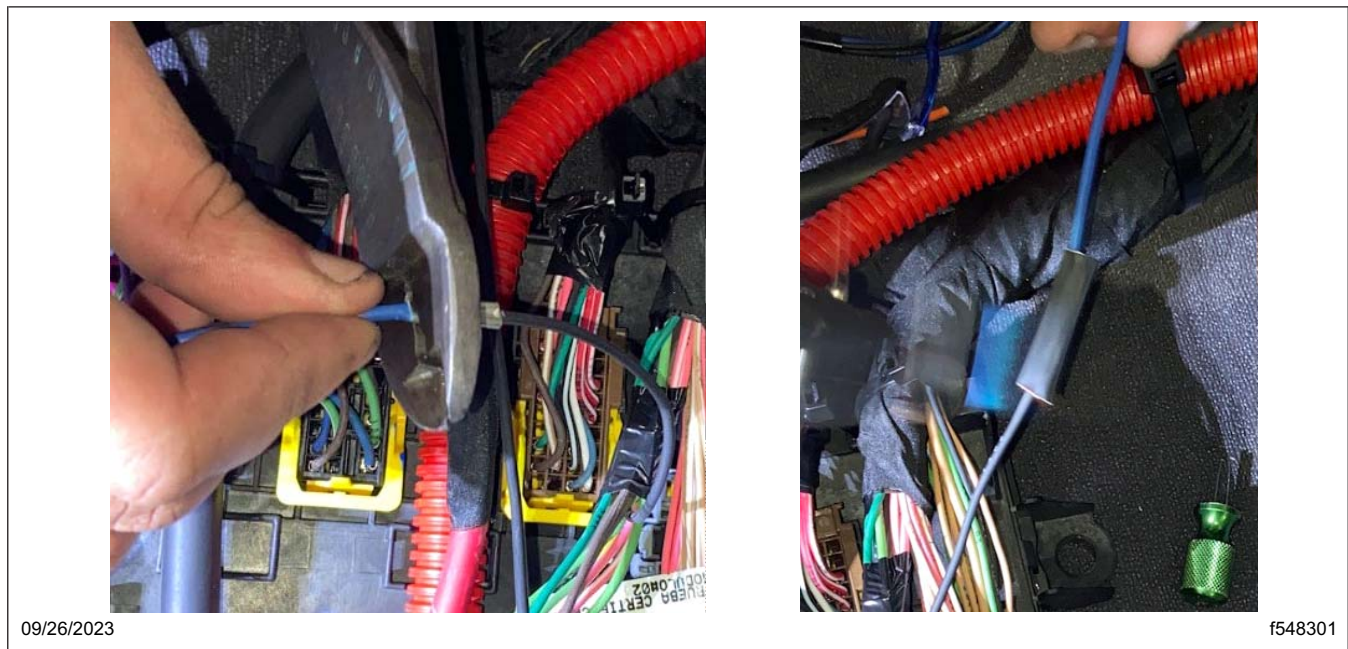

Fig. 33, Splicing the Wire
- 9.8 Splice the wire removed from cavity 6 of the SSAM X2 connector to the shorter blue wire that was routed to the X2 connector in step 7. See Fig. 33.